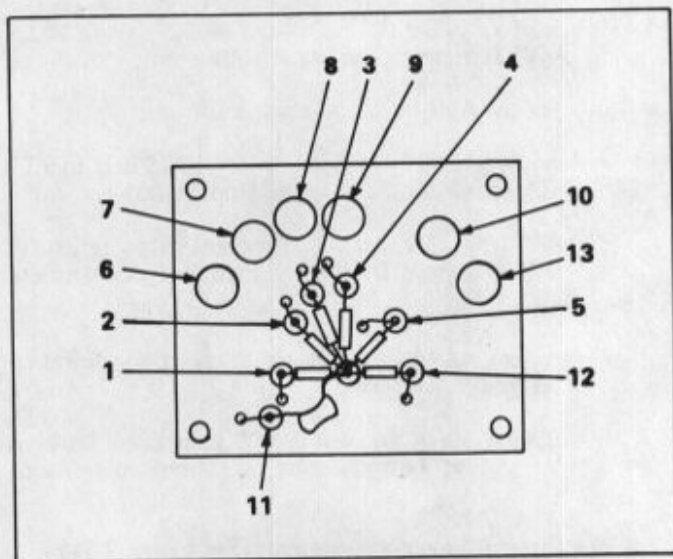

Figure 2-28. Trimmer Locations, Diode Switch Assembly, A9
- au. Disconnect the RF voltmeter from BNC cable and reconnect the cable to Z1-R. (Figure 2-28 is displayed for reference)